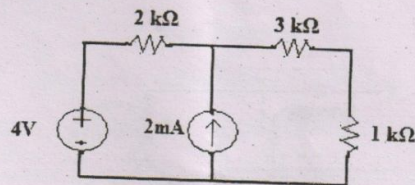

Fig. 5
- (ii) Find the Norton Equivalent circuit for the network faced by the $1\text{ k}\Omega$ resistor in Fig 5.